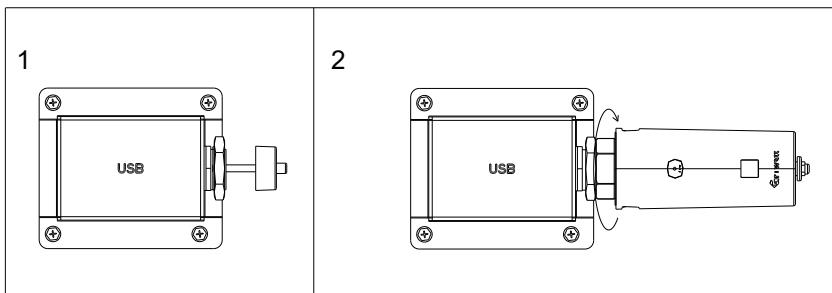

Fig 6.13 Connecting the monitoring device
2. Insert the USB-to-WiFi module, ensuring that the triangle icon is facing upward, and then secure it by tightening the screw, as shown in Fig 6.13. If the module is working properly, its LED indicator will light up.